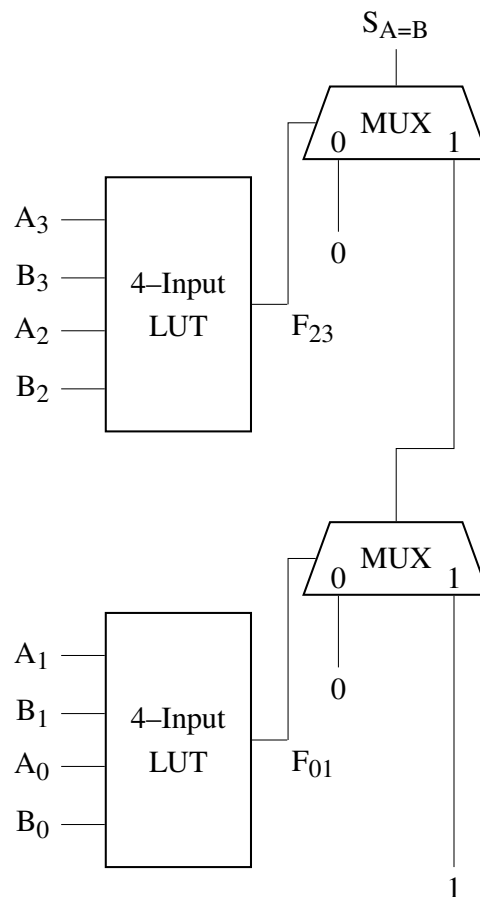

Fig. 3
- (ii) Consider the implementation of a comparator circuit in Fig. 3. Determine the logic expressions for F_{01} and F_{23} so that the circuit sets $S_{A=B}$ to 1 when the two binary numbers, $A = A_3A_2A_1A_0$ and $B = B_3B_2B_1B_0$, are equal. [15%]